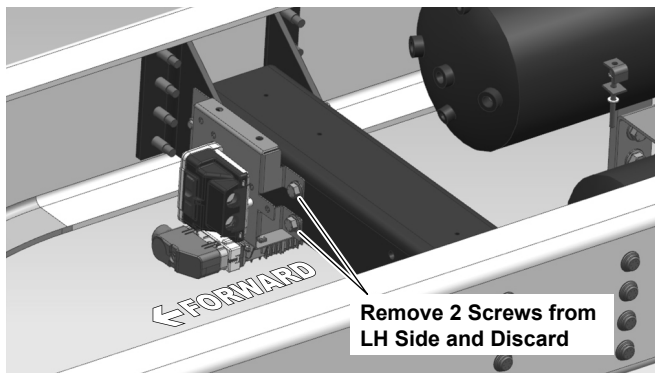

Figure 2, TCM Bracket
2. Remove the 4 screws that mount the TCM bracket to the cross member. Discard the 2 screws from the left side, and set aside the 2 screws from the right side for reinstallation (see Figure 2).